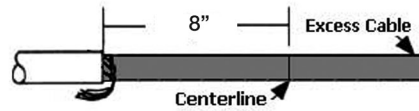

Fig. 2 - Jacket & Neutral Prep
- B. To provide sufficient length of concentric neutral conductor for grounding after installation, measure 8" down the cable from the centerline of the bushing interface and remove the outer jacket to this distance. Care should be taken not to damage drain wires. Bend neutral wires out of the way. See Figure 2.